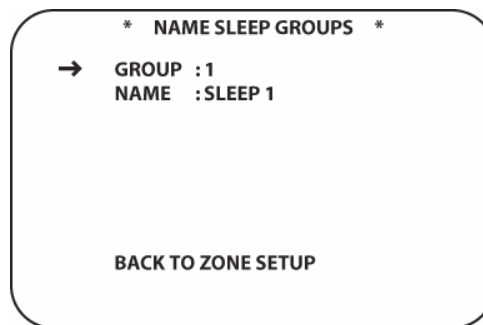

Figure 106 Name Sleep Groups Screen
1. From ZONE SETUP PAGE 1, with the cursor next to NAME SLEEP GROUPS, press the **Set Button [oval 18]**. The NAME SLEEP GROUPS screen will appear. (**Figure 106**)